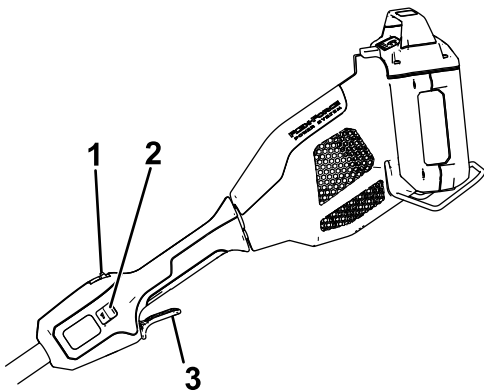

Figure 9
4. To start the trimmer, press the lockout button, then squeeze the run trigger (Figure 9).